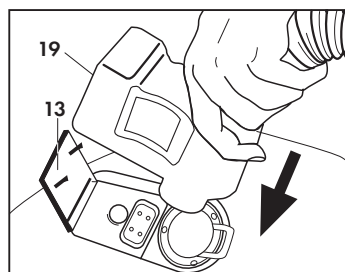

Fig. 6
Close the accessories socket door (13) against the body of the quick connection and ensure that the two parts latch onto each other. (Fig. 6)